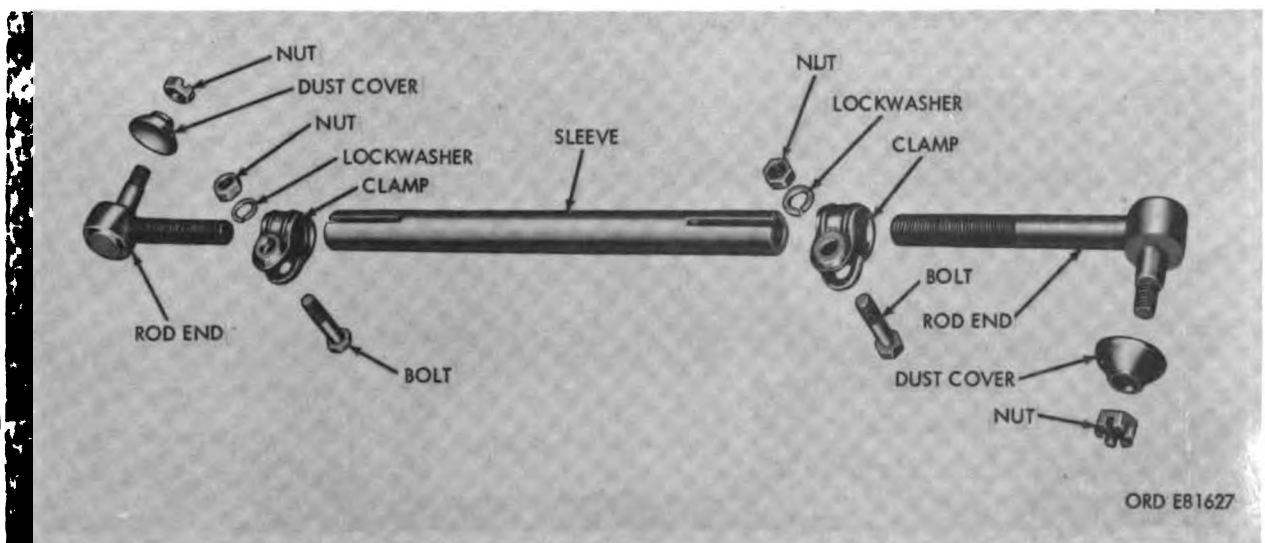

Figure 2-85. Tie rod—exploded view.
*b. Repair (Figure 2-85).*
- (1) Examine dust covers on tie rod ends and replace if torn, stretched or otherwise damaged.
- (2) If ball in tie rod end is not held firmly in socket, check for lost motion and replace tie rod end if necessary. Examine threads of slotted nut and ball stud and replace tie rod end if damaged. Examine threads on shaft of tie rod end and, if damaged, either rethread with die or replace entire tie rod end. If shaft of tie rod